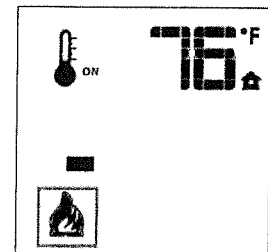

Figure 7.7 Flame Level 1.
- With the system ON, and the burner flame level at maximum, press the Down Arrow Key once to reduce the flame height by one step. Each time the Down Key is pressed, the flame will step down until the burner is finally turned off. Fig. 7.7.